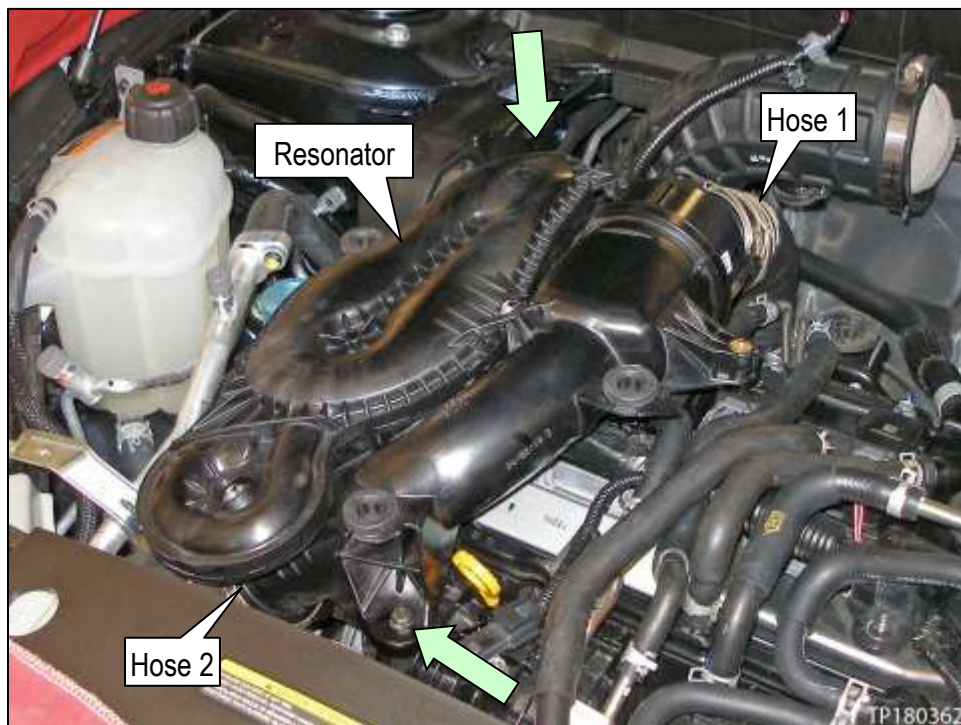

Figure 9
- a. Remove the bolts (see arrows in Figure 9).
- b. Disconnect air inlet hose 1 and air inlet hose 2 (see previous page, Figure 9).
- Using a screwdriver or suitable tool at (B), move the spring upward, and then pull off the related air inlet hose.